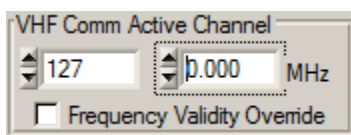

Figure 52 Setting channel frequency to 127MHz
- 4) Set channel frequency to 127 MHz. (Figure 52).